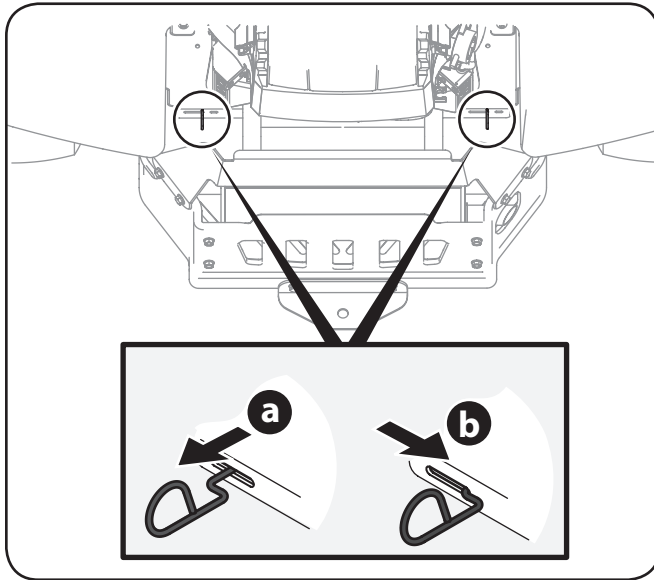

Figure 6-3
1. From the rear of the tractor, just inside the two rear tires, locate the transmission bypass rods. Refer to Figure 6-3.
2. Engage the transmission bypass rods, one on each side of the tractor, to move the tractor manually without starting it. The transmission bypass rods are located on the rear of the tractor, just inside each rear wheel. Engage the bypass rods by pulling each one out (a) and to the right (b) to lock it into place. See Figure 6-3.
3. Disengage the bypass rods by reversing steps a & b after moving the tractor. See Figure 6-3.